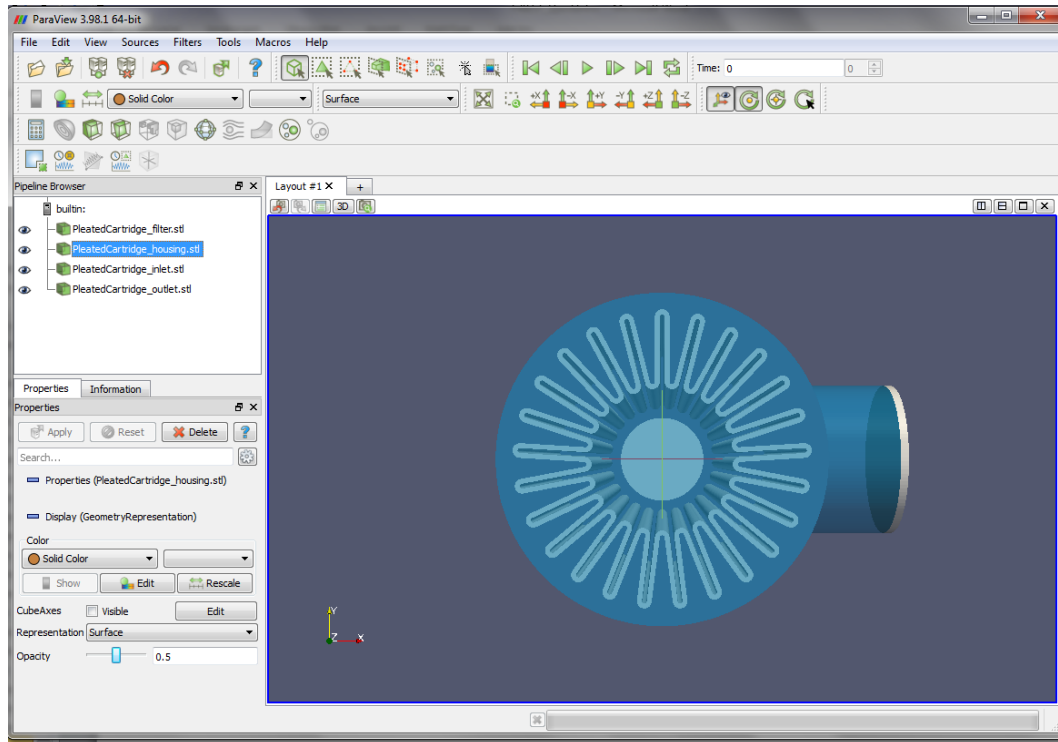

Figure 6.1-5: Using the **Opacity** slider the housing becomes transparent.
- Move the **Opacity** slider in the **Properties** tab to the left. You will see that the housing becomes transparent and both the filtering medium and the outlet appear (see Figure 6.1-5).